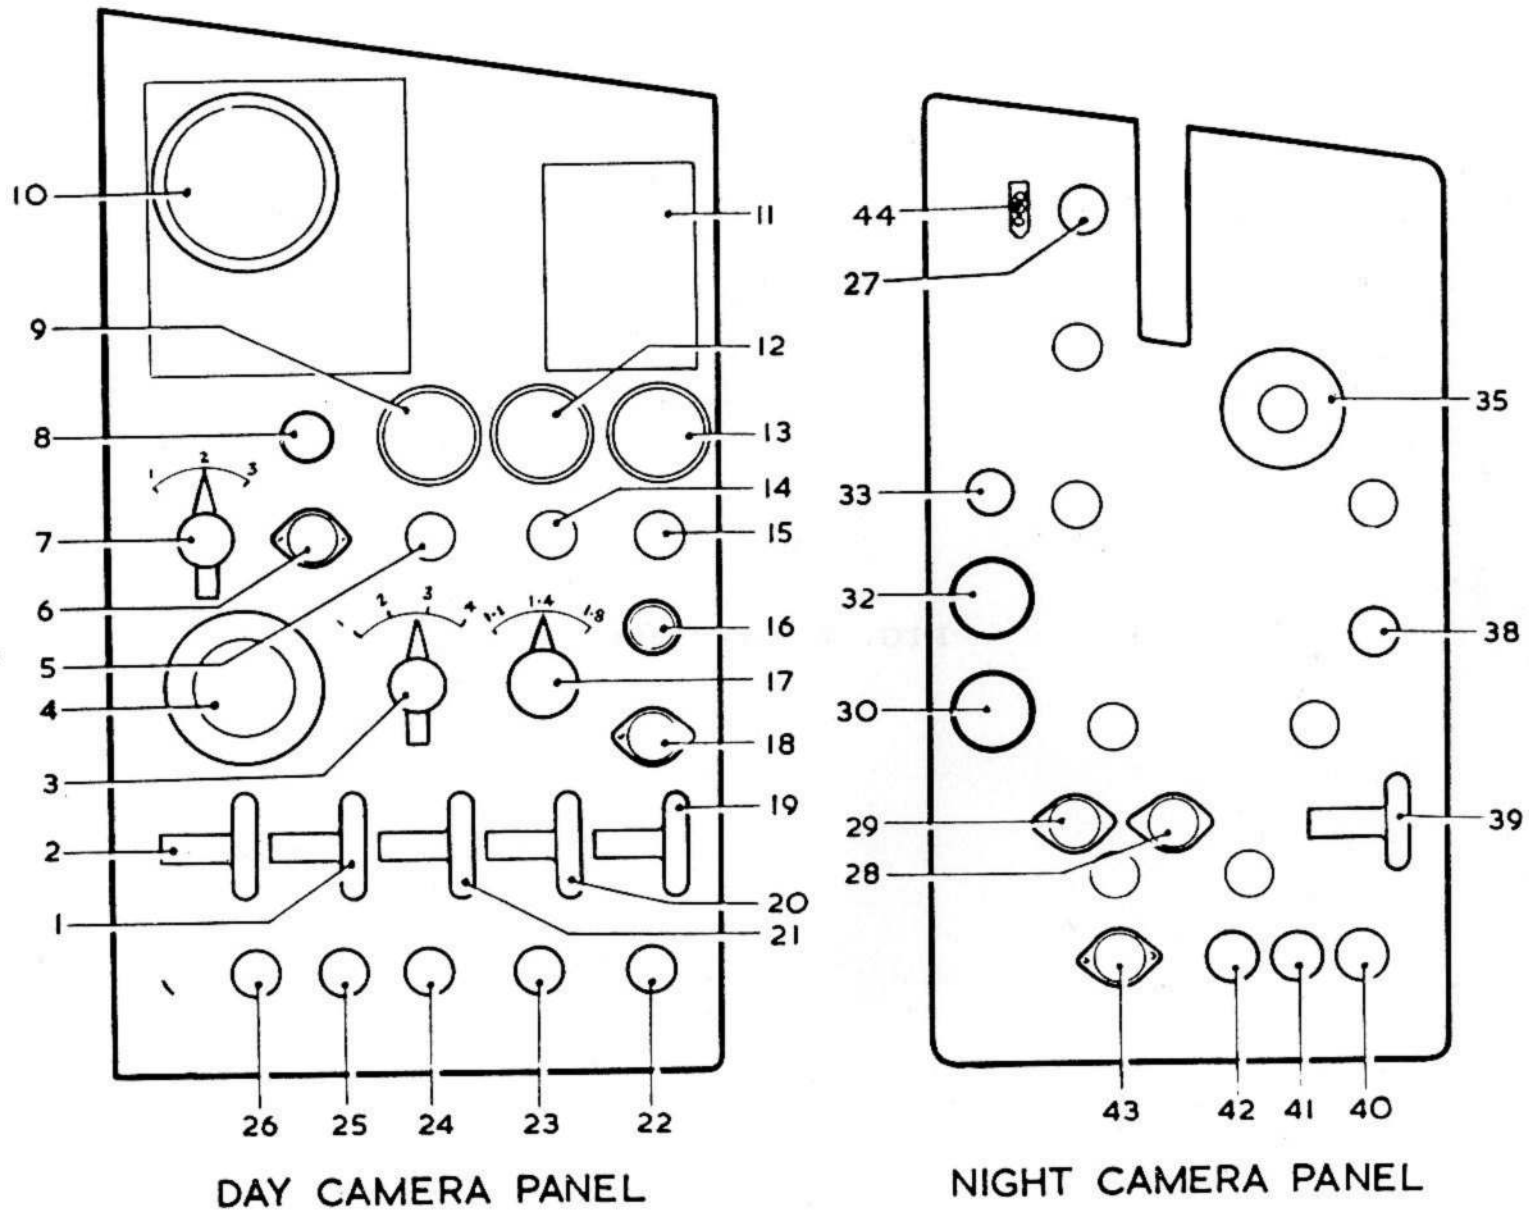

Fig. 2 Camera console
(Pre Mod 4838) Control Box (Post Mod 4838). 61 Night camera panel - for details see Fig. 2. |
- 82 FLASHES GONE magnetic indicators (5).
- 86 Day camera panel (details see fig. 2).
KEY TO FIG. 2